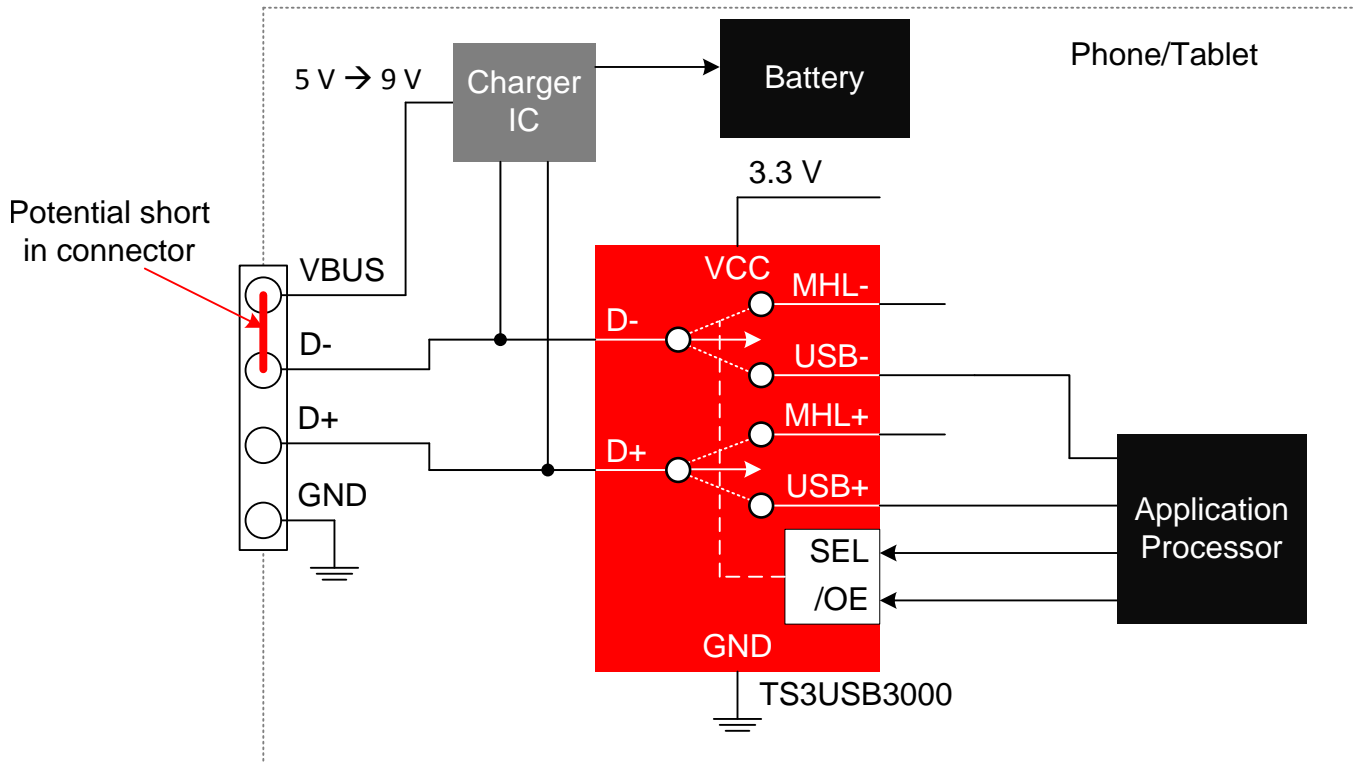

Figure 13. Potential VBUS to D- Short Example
In Figure 13, the system has an application processor (AP) that cannot survive 9-V on the USB data lines. The following procedure protects the system and the TS3USB3000. As stated in the Absolute Maximum Ratings footnotes, the 9-V rating is only applicable while the VCC is powered within the voltage range of the recommended operating conditions and the \overline{OE} pin is high.